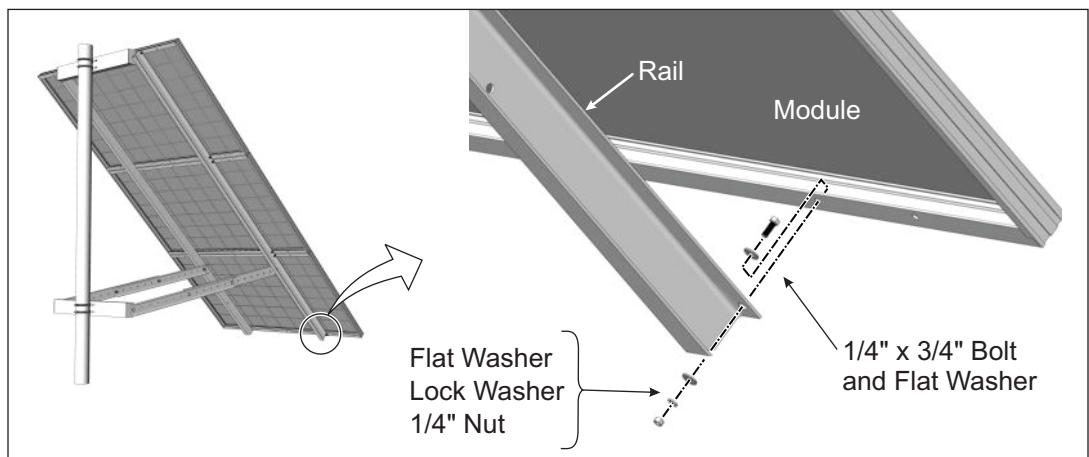

Figure 7-1: Attaching Module to Rail
- A. Place the Module on the Module Rails. While one person holds the Module in place, align the mounting holes and secure with four 1/4" x 3/4" bolts and hardware. **Torque to 6-8 ft.-lbs.** (See Figure 7-1)